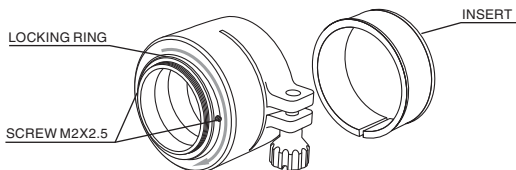

FIGURE 2-3. SCOPE MOUNTING SYSTEM
1. Loosen two screws M2x2.5 inside the locking ring (Figure 2-3) of the scope mounting system. The locking ring must travel easily along the thread.
2. Rotate the locking ring towards the body of the mounting system until full stop (the rotating direction is shown with arrow on Figure 2-3). Avoid overtightening.